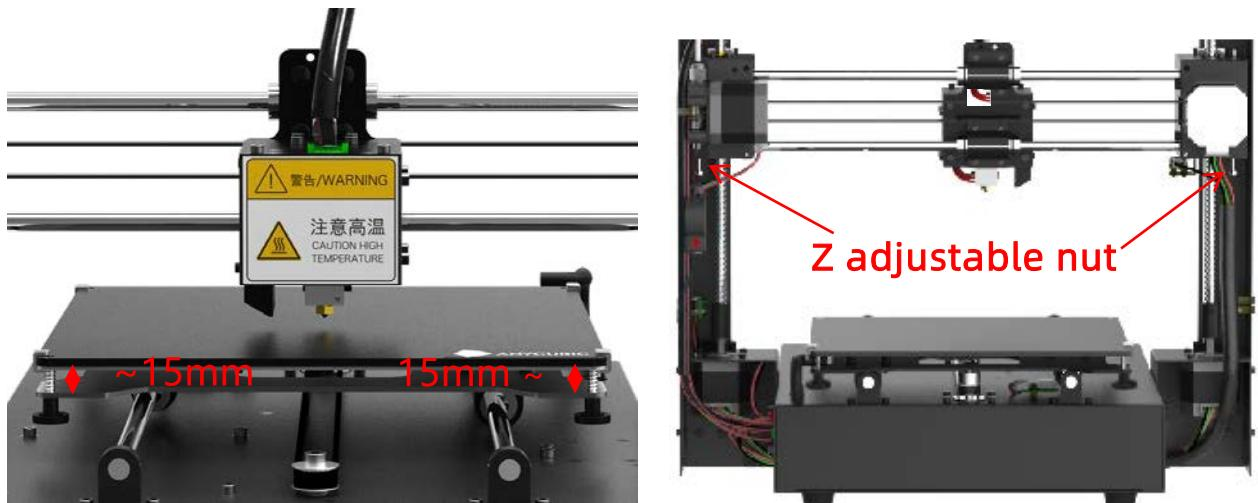

Figure 13
- (1) Raise the nozzle by click “Tools”--> “Axis” --> “10” on +Z column, adjust the 4 nuts under the platform, let the height in-between the support plate and the heated bed is ~15mm for all the 4 corners.
- (2) As shown in **Fig. 13**, at both ends of X axis, there is a Z adjustable nut. The lower tip of Z adjustable nut can trigger the Z end stop when Home (going down), and ‘tell’ the machine Z axis is getting to zero and stop moving.